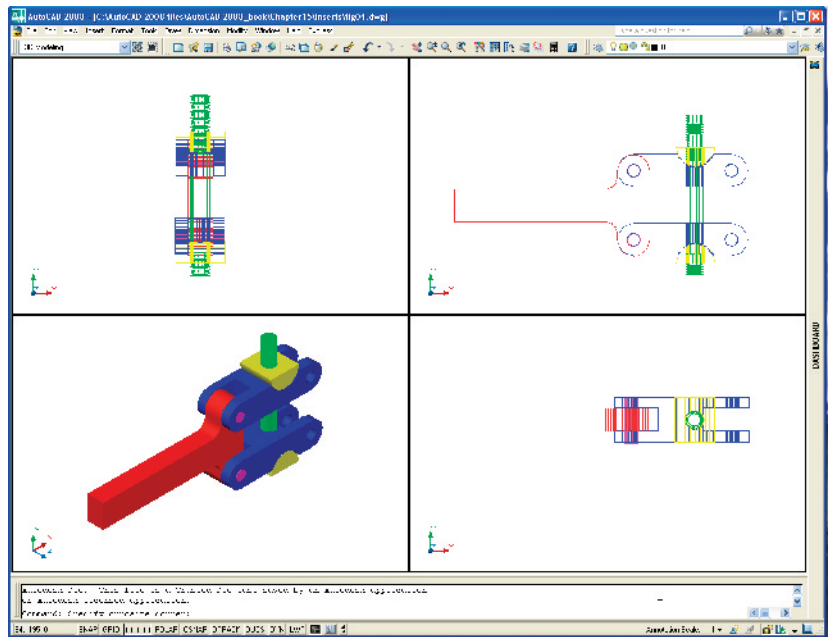

Fig. 15.4 First example – inserting 3D blocks
First example – inserting 3D blocks (Fig. 15.4)
7. Using the **Move** tool, move the individual 3D models into their final places on screen and render the **Southeast Isometric** viewport. Shade using **Visual Styles/Conceptual** shading (Fig. 15.4).